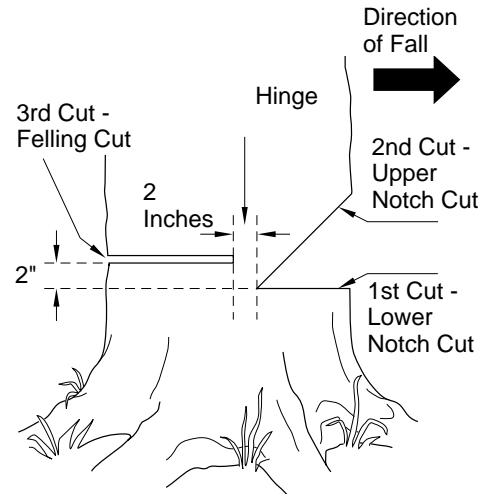

Figure 12 - Felling A Tree
A properly placed felling notch will determine direction tree will fall. Place felling notch on side of tree in direction you want tree to fall (see Figure 12). Follow directions below to create a felling notch.
1. Make lower notch cut as close to ground as possible. Hold saw so guide bar is horizontal. Cut 1/3 the diameter of tree trunk (see Figure 12). *Note:* Always make this horizontal lower notch cut first. If you make this cut second, tree can pinch chain or guide bar.
Example: If lower notch cut is eight inches deep, start upper notch cut eight inches above it. Cut downward at 45° angle. The upper notch cut should meet end of lower notch cut (see Figure 12).
1. Make felling cut two inches higher than lower notch cut and on opposite side of tree (see Figure 12). Keep felling cut parallel to lower notch cut.
⚠ **WARNING:** Do not cut all the way through tree. Leave about two inches of tree diameter uncut directly behind felling notch (see Figure 12). This uncut portion acts as a hinge. The hinge helps keep tree from twisting and falling in wrong direction.